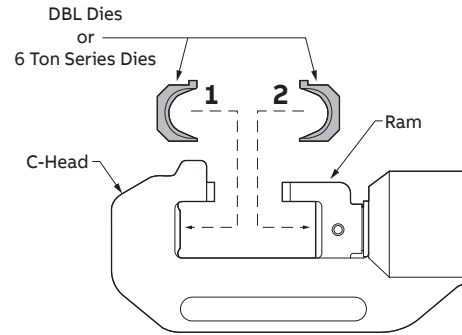

FIGURE 1
2. Insert one die half into the C-head. Insert the other half of the die into the Ram (Figure 1).